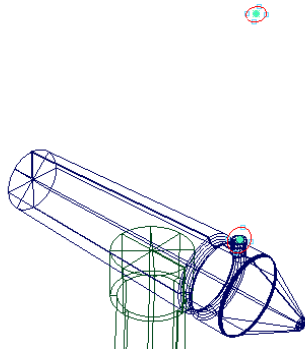
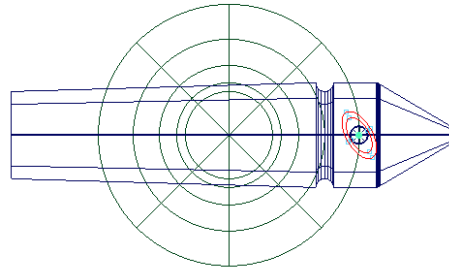

Figure 3-95 Two ellipses created in line with each other
Figure 3-96 Ellipses displayed in the *Top* window
3. Create another ellipse in line with the first ellipse, as shown in Figure 3-95. Figure 3-96 shows two ellipses in the **Top** window.